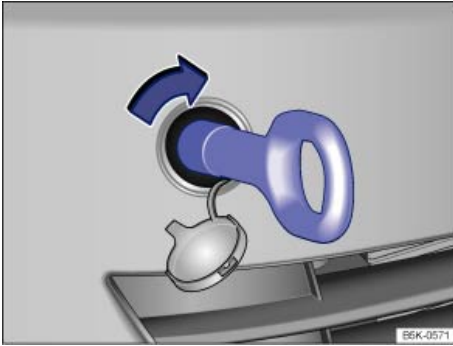

Fig. 191 In the right front bumper: Screwing in the towing eye.
There is a threaded hole for the towing eye in the right front bumper ⇒ fig. 191.
- Screw the towing eye **clockwise** into the threaded hole as far as it will go (arrow) ⇒ fig. 191 ⇒ ⓘ